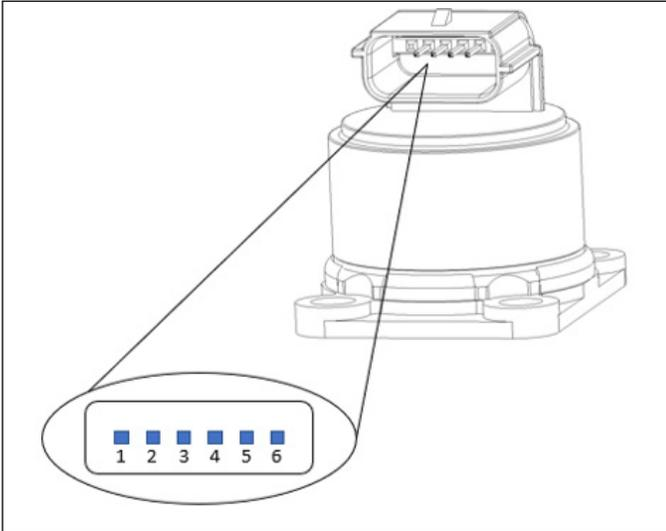

Figure 13 – Pressure Sensor Connector Pins
See Figure 13 and refer to Table 4 for the connector pins for the pressure sensor.
4. Remove the alignment fixture (if used) and install the pressure sensor cover by aligning the bottom tabs with the open bolt holes. See Figure 13.